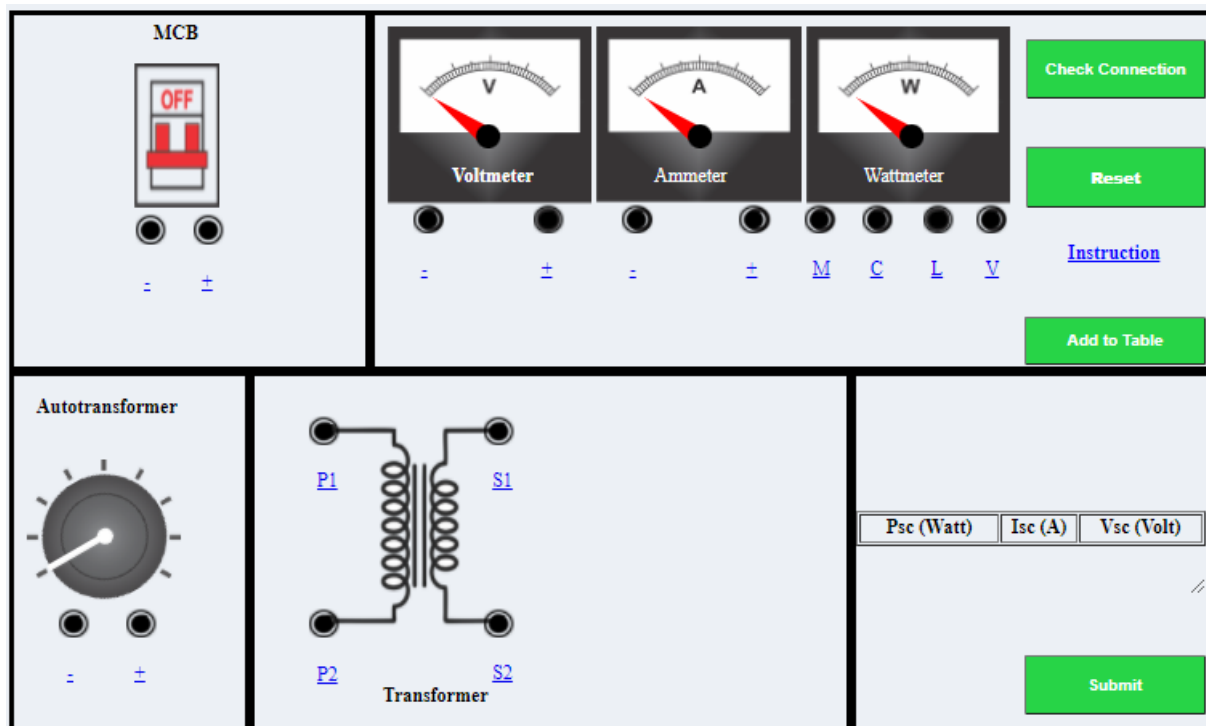

Figure 4: Draw the wiring diagram of a short circuit transformer test for this figure.
Step 5.8: Make all the correct connections. Refer to the steps below and **draw the wiring diagram of a short circuit transformer test in Figure 4.**